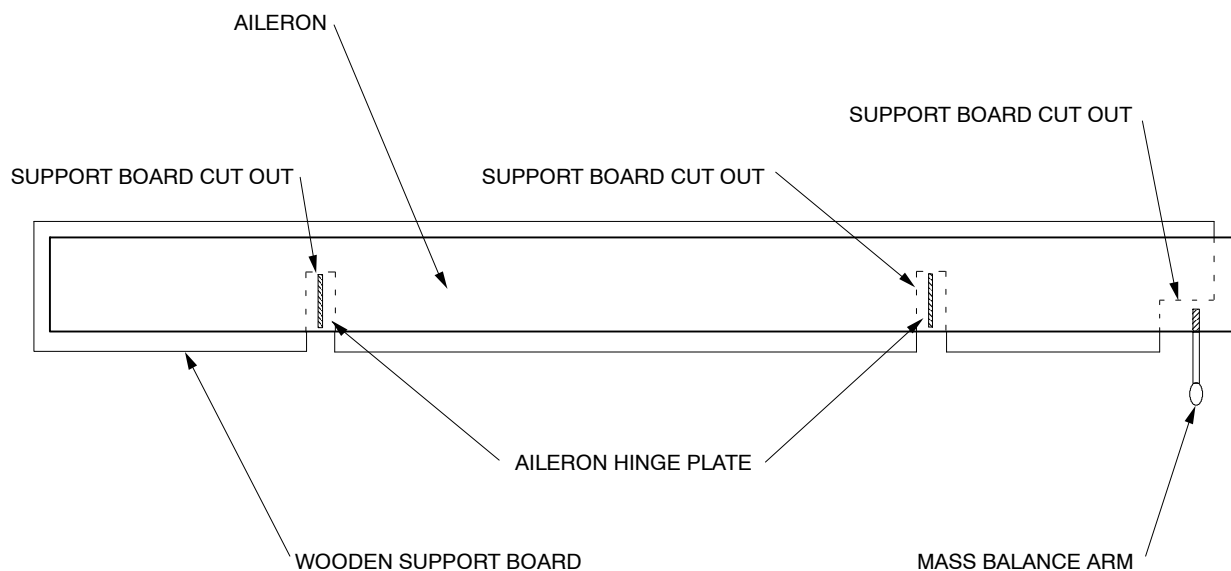

Figure 1 Aileron Support Board
- (4) Prior to starting the repair, the aileron should be supported on the lower skins for the complete length of the aileron by laying it on a solid flat surface having suitable cutouts for the hinge plates and mass balance arm (Ref Figure 1).
- (5) Remove all mass balance weights, bolts, nuts and washers and retain for later reassembly.
Aileron Balancing Fixture PN 1600-0003 (Ref SRM Chap 57-50-21 Fig 1)
- (1) Aileron Balancing Fixture (Ref SRM Chap 57-50-21 Fig 1)